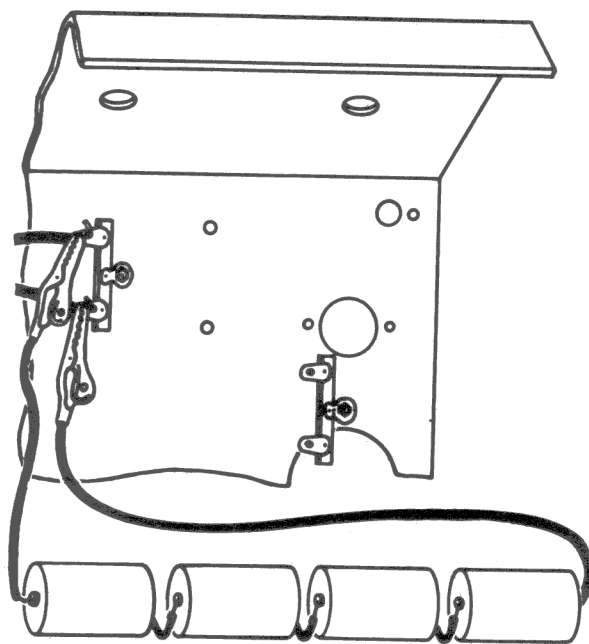

Fig. 14-7
Step 1. Clip one lead of the battery to one lead of the filter choke, as in Fig. 14-7. Just for a moment, touch the other battery clip to the other end of the filter choke. Do this carefully several times and watch for a spark. Does the spark occur when you make the circuit or break the circuit? Do you know why this should be so? Disconnect the battery from the filter choke.